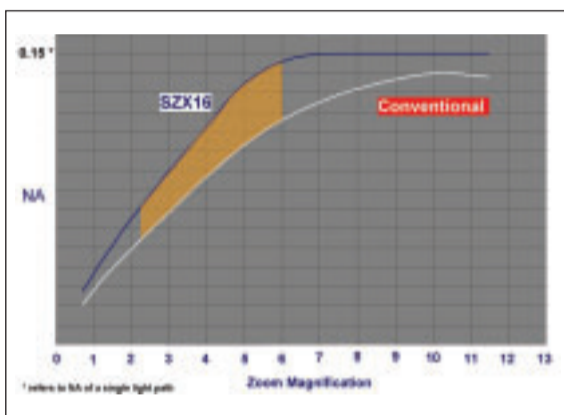

Figure 3: The optimised NA / magnification ratio of the SZX16 research stereo microscope (blue line) compared to a conventional stereo microscope (red line)
The SZX16 uses the parallel light path principle of a Galilean (or telescope) optical system. This provides excellent flexibility since more optical features (such as fluorescent illumination) can be placed into the parallel light paths. In order to support the larger lenses than conventional stereo microscopes, the SZX16 uses specially adapted optics to give a greater distance between light paths. This enables significantly increased numerical apertures (NA) to provide excellent light signal collection. Consequently, the SZX16 provides the highest possible resolution throughout its magnification range (Figure 3) and has a maximum numerical aperture of 0.3, giving an unprecedented resolution of 900 line-pairs per millimetre.